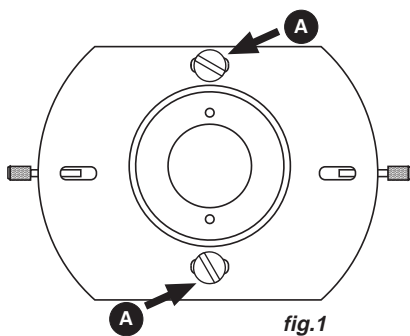

fig.1
3. **(fig.1)** Unscrew the two locking screws (A) on the aluminium support which fix the lampholder base to the optical group